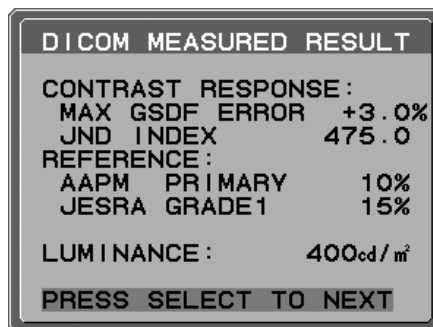

Figure D.2
4. After the DICOM MEASURED RESULT message appears (**Figure D.2**). You can set DATE and TIME using control keys, and press SELECT